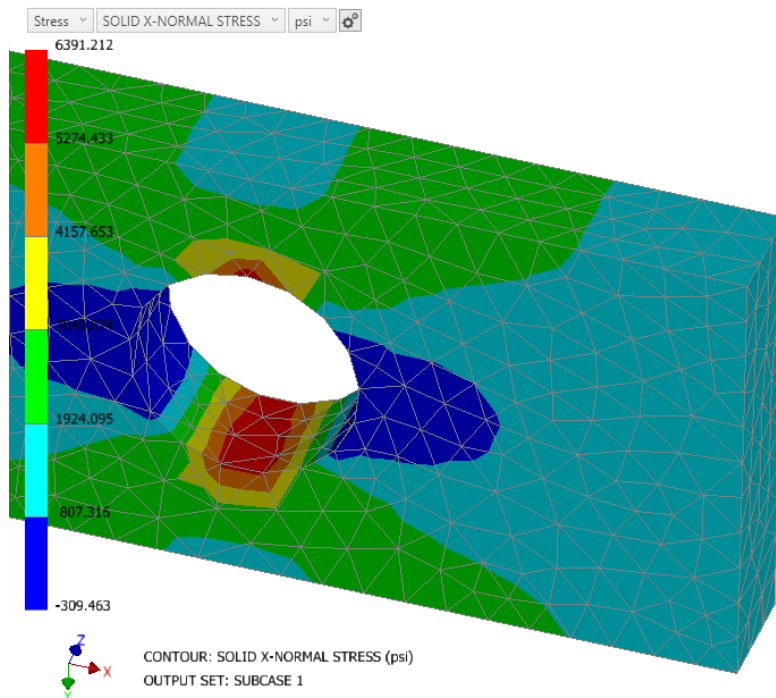

Figure 4 - Combined parts show a smooth stress gradient compared to the split model.
- Eliminating contact also results in smoother results at the junction between parts. See Figure 3 and Figure 4 for an example where the stress result has a sudden change across the parts.